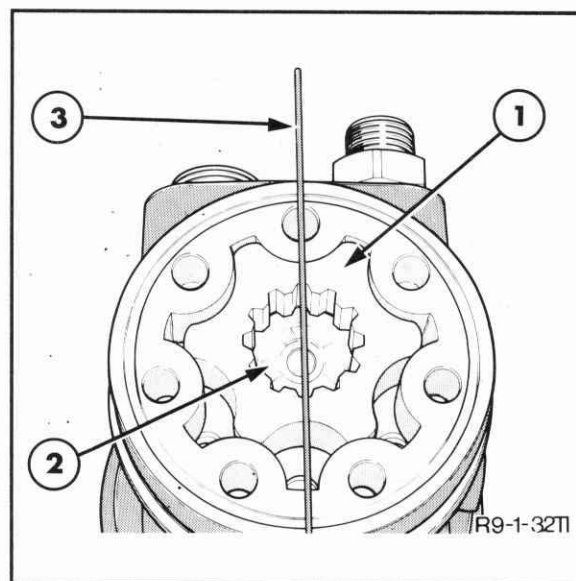

Figure 7-42
18. Position the metering unit onto the valve plate with the rotor positioned as in Figure 7-42. Align the holes in the valve plate, stator, and motor housing.
When correctly installed, one rotor lobe will be positioned centered on a stator lobe as shown in Figure 7-42.